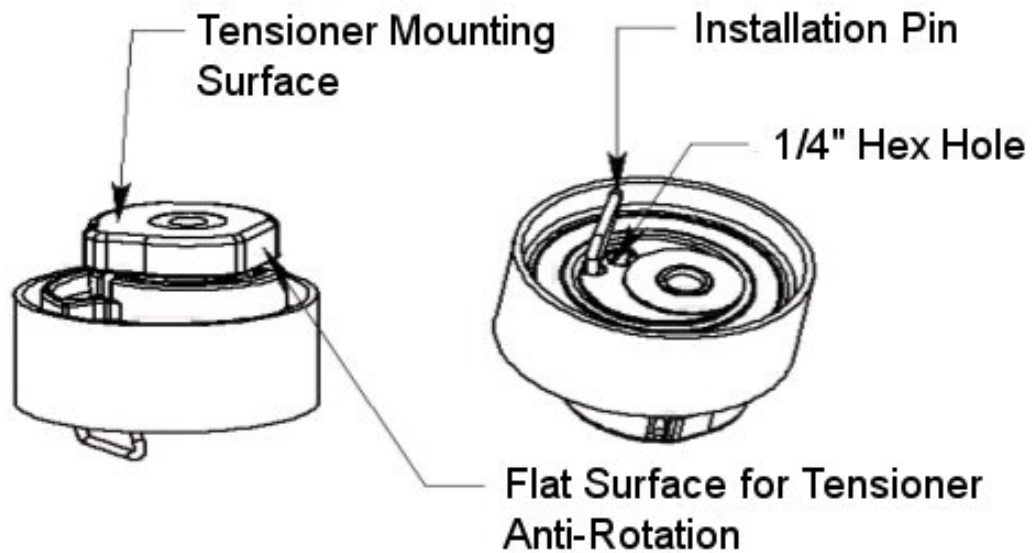

Figure 3. Tensioner Locked at load stop by Installation Pin
5. Install new TBT on the engine, which is locked at load stop by a installation pin (see Figs.3), ensuring that the flat surface of tensioner's spindle cup meets a raised stopper on the engine block and the TBT seats on the engine mounting surface properly.